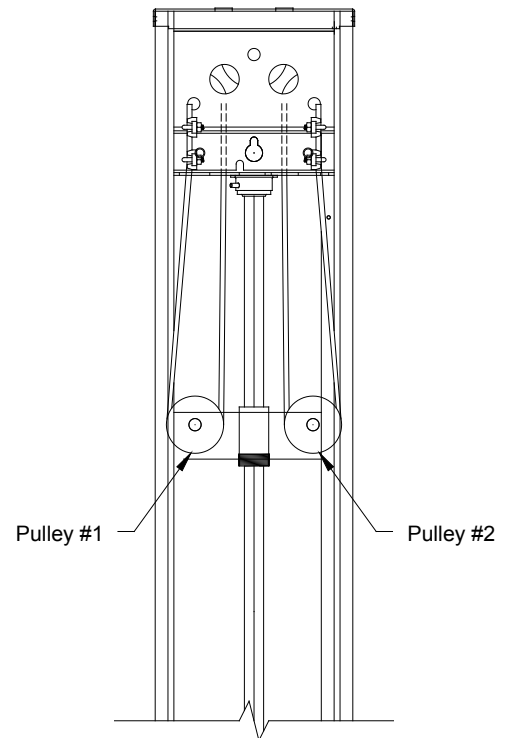

Figure 7A
If optional internal double-back was purchased, route the left drive cable down the inside of the curtain machine of the right side of pulley #1. Route the right drive cable to the left side of pulley #2. Wrap the drive cables around the bottom of its corresponding pulley, and take each drive cable to the upper bulkhead and through its corresponding hole. Using (2) cable clamps, attach (1) cable clamp 1" from the cable end and (1) cable clamp below, but as close as possible to the first cable clamp. **See Figure 7A.** Refer to Steps 4-7 for cable routing options.